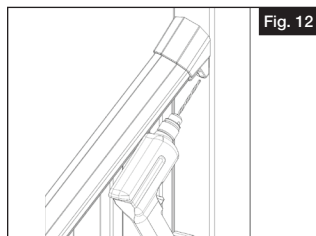
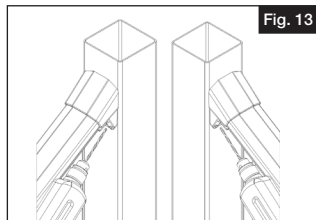

Fig. 12
Fig. 13
- Looking down from above, check to ensure screws penetrate the wood post (or plastic spacer of post install kit) (Fig 12).
- a. Center your bracket on the post. Using the holes in the bracket as a guide, pre-drill one of the lower holes with a $\frac{5}{32}$ " drill bit (Fig 12). Drive one of the #10 x 3" screws through this hole. Pre-drill the other lower hole and drive another 3" screw into it. Now pre-drill the upper 2 holes in the bracket (Fig 13). Drive two more 2" screws into those holes. Be careful not to overtighten.